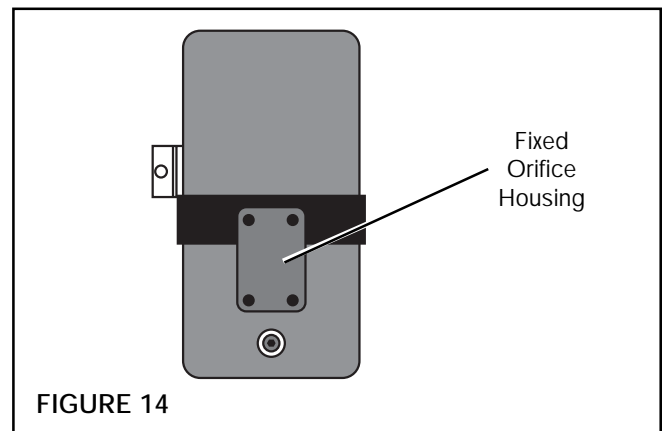

FIGURE 14
1. Remove the Fixed Orifice Housing (See Figure 14).